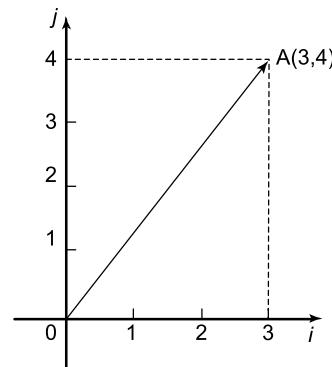

Figure 4.3
- (vi) $xi + jy$, where i and j are axes at right-angles to each other; for example, $3i + 4j$ means 3 units in the i direction and 4 units in the j direction, as shown in Figure 4.3.
- (vii) a column matrix $\begin{pmatrix} a \\ b \end{pmatrix}$; for example, the vector OA shown in Figure 4.3 could be represented by $\begin{pmatrix} 3 \\ 4 \end{pmatrix}$
Thus, in Figure 4.3,